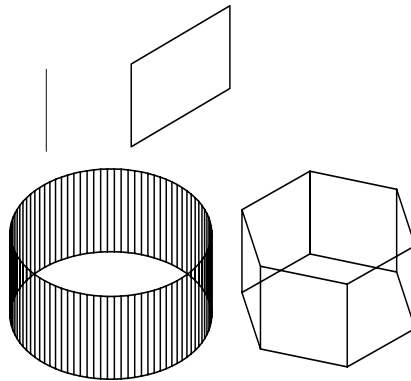

Figure 2-45 A point, line, polygon, and circle, drawn with a thickness of 5 units
3. Figure 2-45 shows a point, line, polygon, and a circle, which are drawn with a thickness of 5 units.